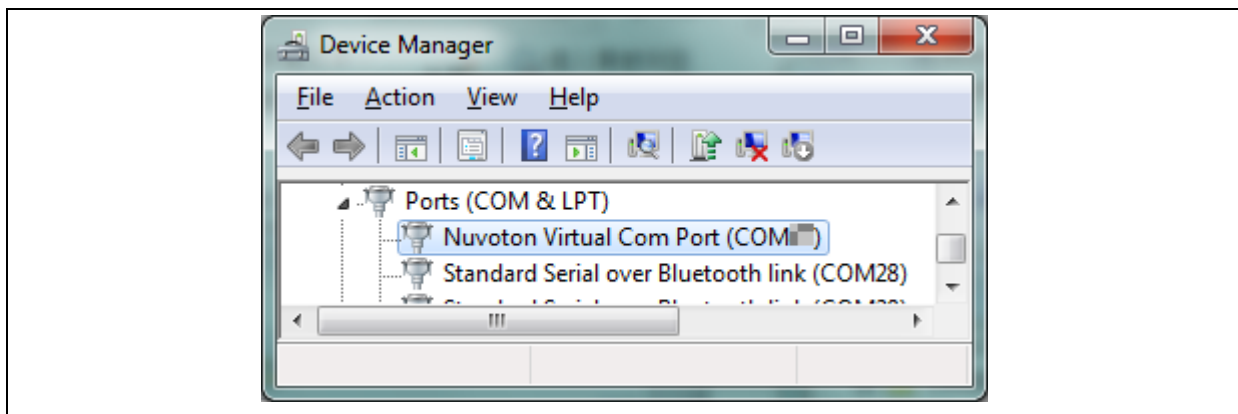

Figure 3-5 Device Manger
- Find the “Nuvoton Virtual COM Port” on the Device Manger as Figure 3-5.